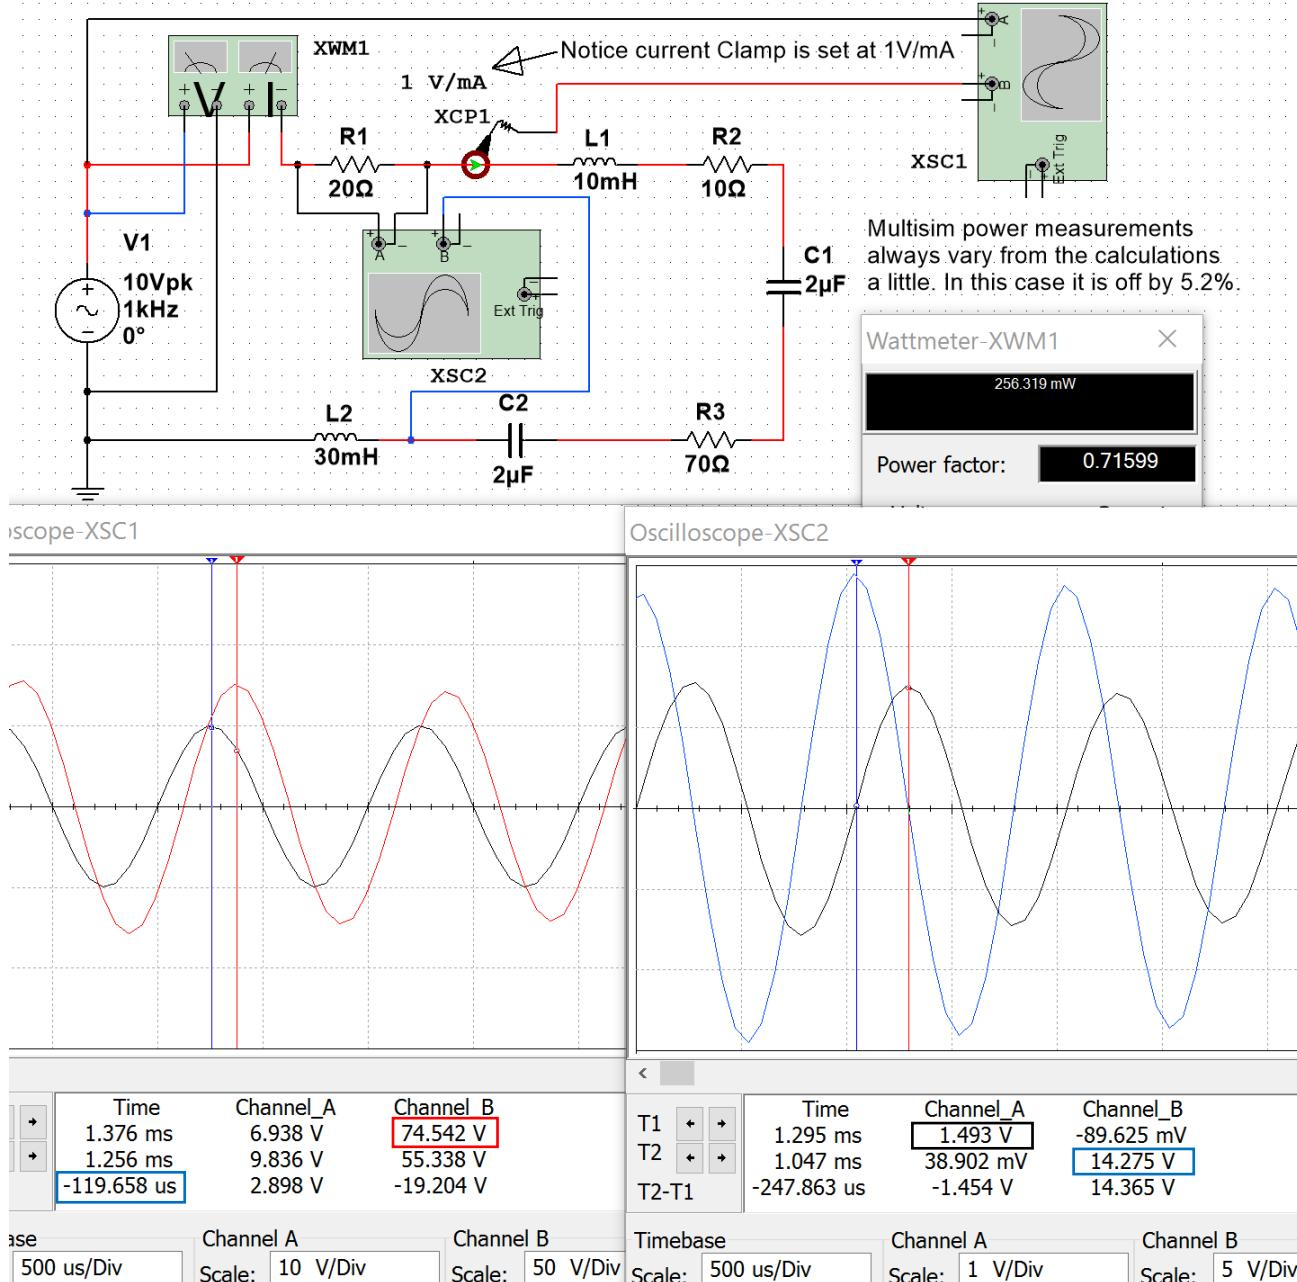

Figure 3.21: Circuit for Example 3.9
- Figure 3.21 shows  $V_{R1}$  and  $V_{L2}$  are  $90^\circ$  out of phase. Calculations agree  $\rightarrow \theta_{VL2} - \theta_{VR1} = 47.33^\circ - -42.67^\circ = 90^\circ$